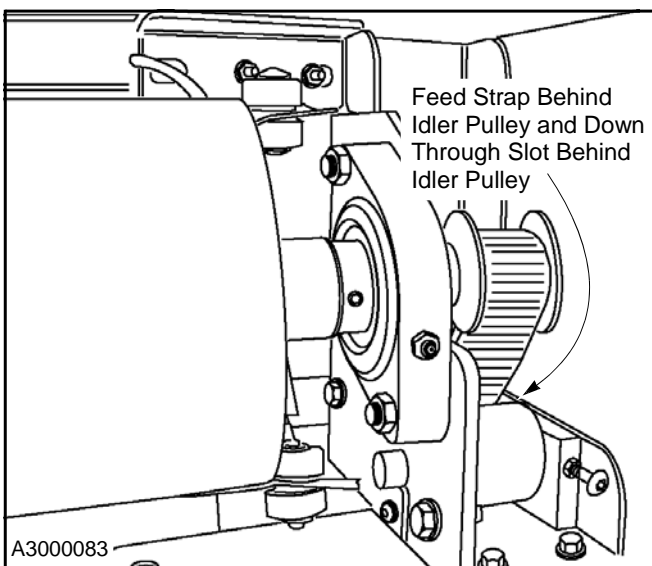

Figure 33
4. Unravel the counterweight strap and feed the end of it down into the side column, through the slot just behind the idler pulley. **DO NOT** add or remove any wraps of the strap around the spool. The required number of pre-wraps (typically two) was determined at the factory. (See Figure 33.)